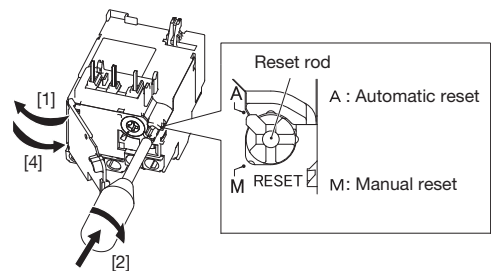

Fig. 2
(5) Switching from manual reset to automatic reset [Fig. 2]